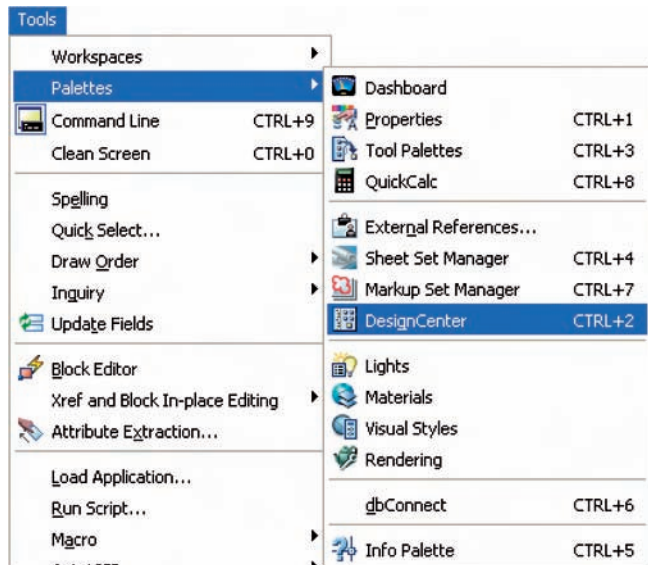

Fig. 15.2 Calling the **DesignCenter** to screen
4. Open the **DesignCenter** with a *click* on its name in the **Palettes** sub-menu in the **Tools** drop-down menu (Fig. 15.2), or by pressing the **Ctrl** and **2** keys of the keyboard.